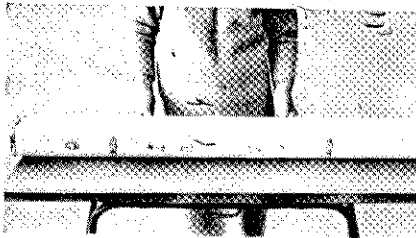

Fig. 1
1. Place your knitter on the edge of any firm and flat table, with the name plate on top and the handle of carrying case away from you. (See Fig.1)